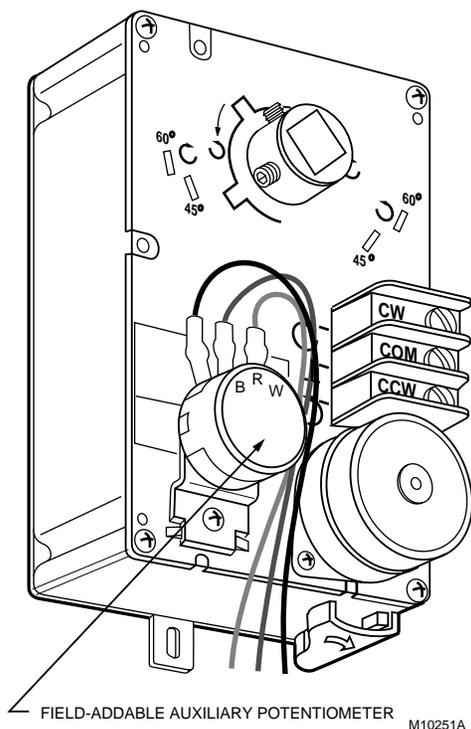

Fig. 12. ML6174A,C with field-addable potentiometer.
The 200976A,C Auxiliary Potentiometers mount on the face of the ML6174A,C (as shown in Fig. 12). The potentiometer shaft has a slipping collar. If one of the two limits of the potentiometer is exceeded, the collar continues to rotate, causing no damage to the potentiometer itself. To mount the potentiometer on the actuator:
2. Check the resistance values of the potentiometer with an ohmmeter at intervals in the stroke while referring to the table in Fig. 12 and feedback potentiometer ratings in the Specifications section.